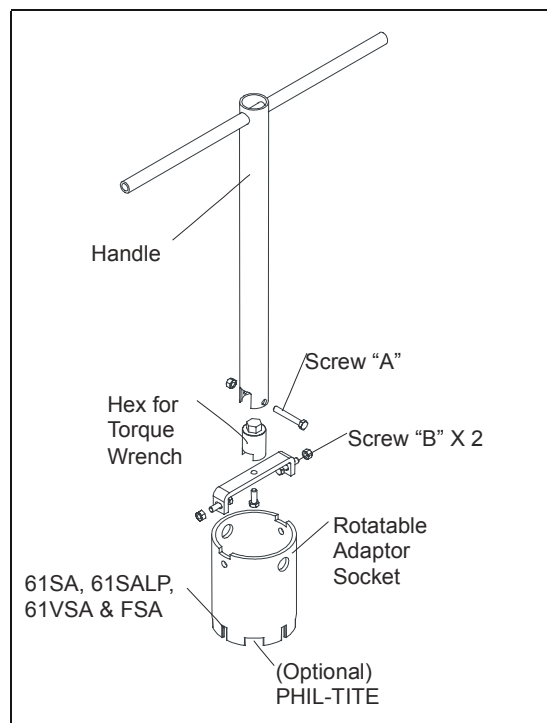

Figure 1
- 1.) Slide the rotatable adaptor socket of the assembled tool onto the appropriate lugs of the necessary product. See Figure 1.